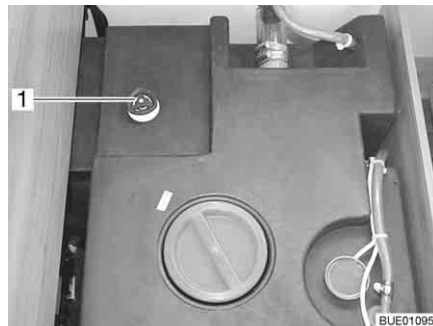

Fig. 180 Water tank with handle
- Turn the handle (Fig. 180,1) on the water tank in an anticlockwise direction as far as possible beyond the resistance to fully open the drainage opening.